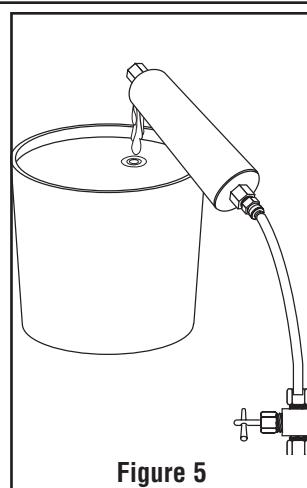

Figure 5
6. Turn on the incoming water supply to flush out the filter into a bucket or pan for five minutes, thereby removing fine particles of carbon which may be present in the filter body. When water is clear, stop the flushing procedure. (Figure 5)
- Turn on the incoming water supply to flush out the filter into a bucket or pan for five minutes, thereby removing fine particles of carbon which may be present in the filter body. When water is clear, stop the flushing procedure. (Figure 5)